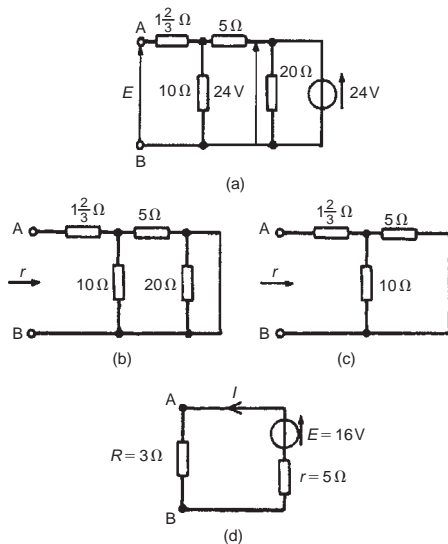

Figure 15.46
- (i) The 3 Ω resistance is removed from the circuit as shown in Fig. 15.46(a).
- (iii) Removing the source of e.m.f. and replacing it by its internal resistance means that the 20Ω resistance is short-circuited as shown in Fig. 15.46(b) since its internal resistance is zero. The 20Ω resistance may thus be removed as shown in Fig. 15.46(c) (see Section 15.4 (vi)).
From Fig. 15.46(c), resistance,
- (iv) The equivalent Thévenin's circuit is shown in Fig. 15.46(d), from which, current,